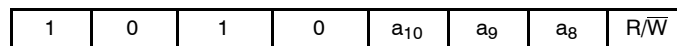

Figure 3. Slave Address Bits
The Master addresses a Slave by creating a START condition and then broadcasting an 8-bit Slave address (Figure 3). The four most significant bits of the Slave address are 1010 (Ah). The next three bits are internal address bits,  $a_{10}$ ,  $a_9$ ,  $a_8$ . The last bit,  $R/\overline{W}$ , instructs the Slave to either provide (1) or accept (0) data, i.e. it specifies a Read (1) or a Write (0) operation.